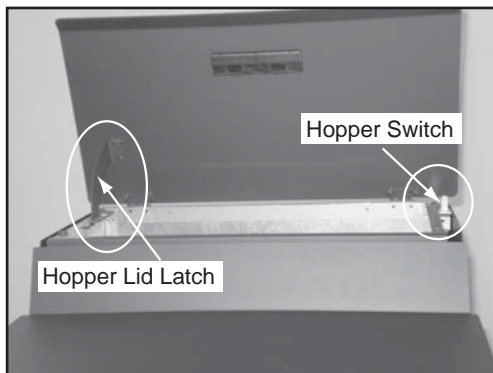

Figure 9.1
2. The hopper switch is designed to shut down the feed motor when the hopper lid is open. Leaving the lid open too long can cause the fire to go out. **Figure 9.1.**